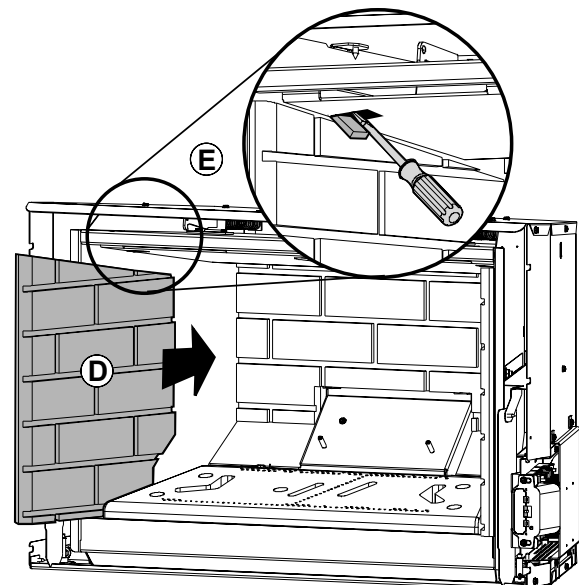

Figure 23. Side panel installation.
Slide each Side Panel (D) into position flat against the firebox side, resting the bottom edge on the support shelf. Fig. 23. **BE CAREFUL TO AVOID PINCHING THE CORNERS OF THE PANELS AGAINST ADJACENT FIREBOX COMPONENTS.** The fibrous, ceramic material can be easily chipped.